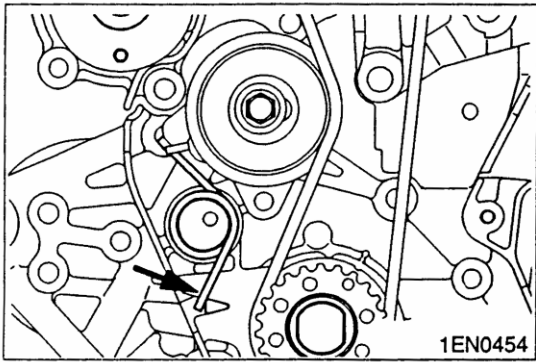

Fig. 4-8
(1) REMOVAL OF TIMING BELT/TENSIONER SPRING/TIMING BELT TENSIONER
- a Using pliers, grip the tensioner spring projection and remove it from the oil pump case stopper. Then remove the tensioner spring, see Fig.4-8.